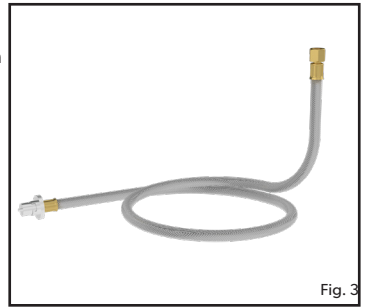

Fig. 3
- **Note:** This appliance can be connected directly to a Caravan/RV via an approved RV bayonet hose with ¼" RH (Female) threaded connection (not included). See figure 3.